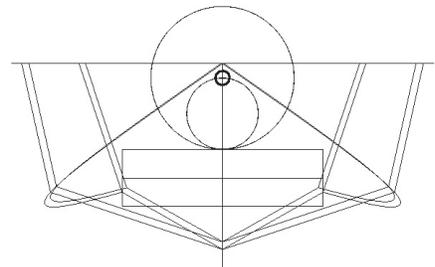

Fig. 17
Step 9. Key-in **1.5, 1.4** and press ENTER, **Fig. 17**.